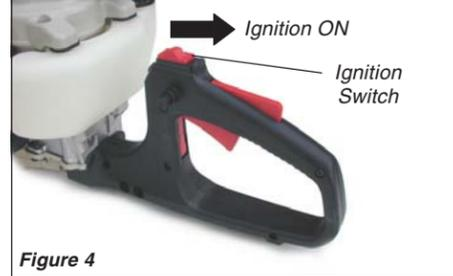

Figure 4
1. Move the ignition stop switch to the rear (towards the grip) to the "I" or ON position. See Figure 4.